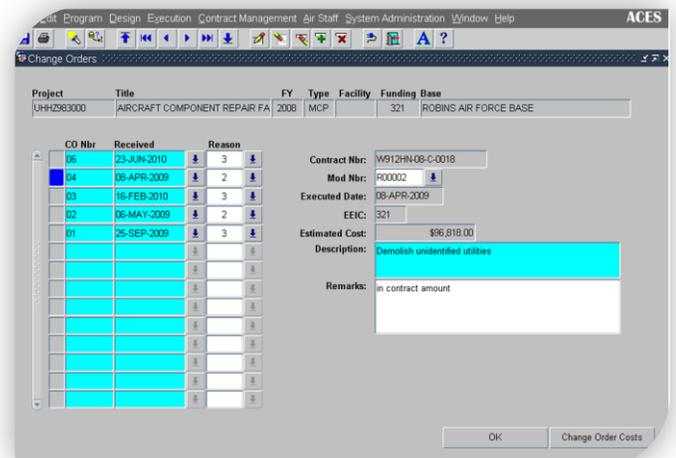

Figure 3.23b. Change Orders
A. **Managing Change Orders** – Even when we do our best to understand our customer’s requirements, and complete meticulous design efforts, inevitably someone identifies something unexpected and requests a change order. The process of tracking change orders may be less critical than tracking the actual modification, but there are benefits to tracking the reasons for the change orders. One key benefit – we retain the ability to track potential opportunities for improvements by evaluating reason trends and applying lessons learned to future designs. On the ACES Contract Mgmt tab click the Change Orders button then enter data for all fields (Figure 3.23b).